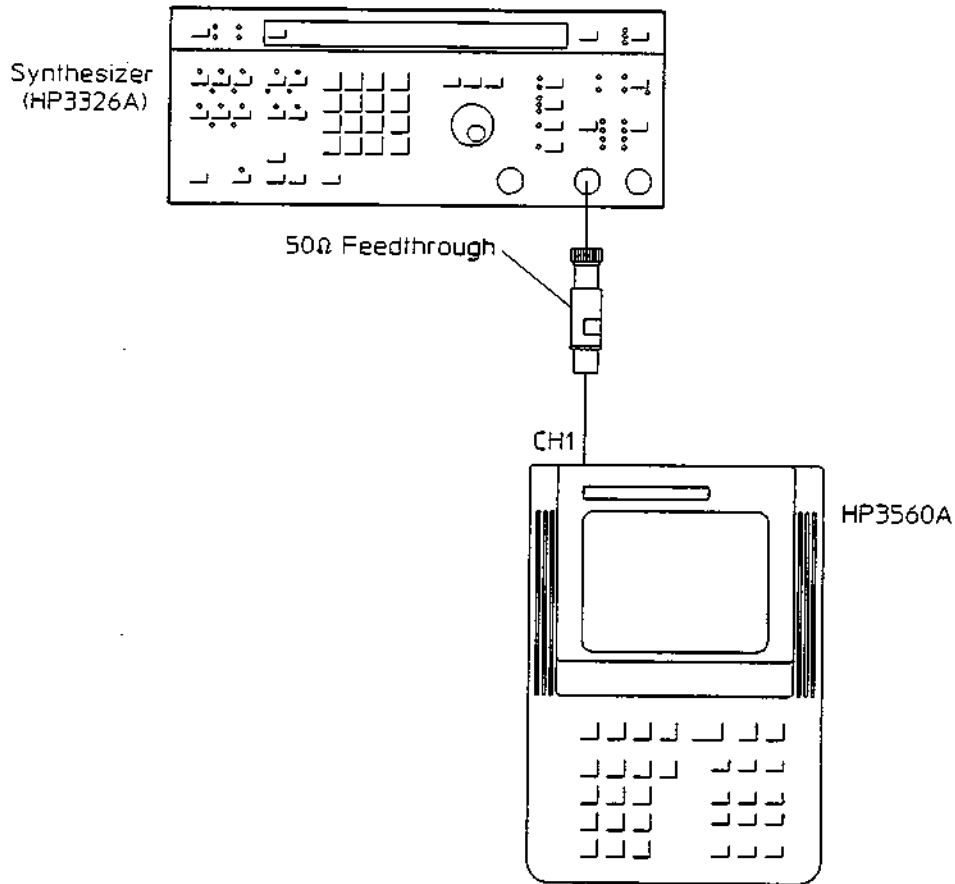

Figure 3-10.
1. Connect the synthesizer output to the channel 1 input using the 50 Ω feedthrough as shown in figure 3-10.